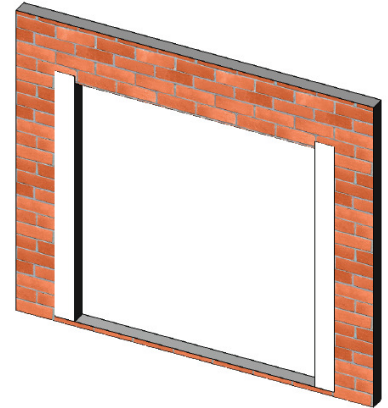

Figure 13:
2. At each jamb, embed the flashing paper into the sealant onto mounting flange and fasten into place. The flashing paper should be cut sufficiently long enough to extend at least 3 inches past the weep-screed or diado flashing and at least 6 inches above the head of the window (Figure 13).